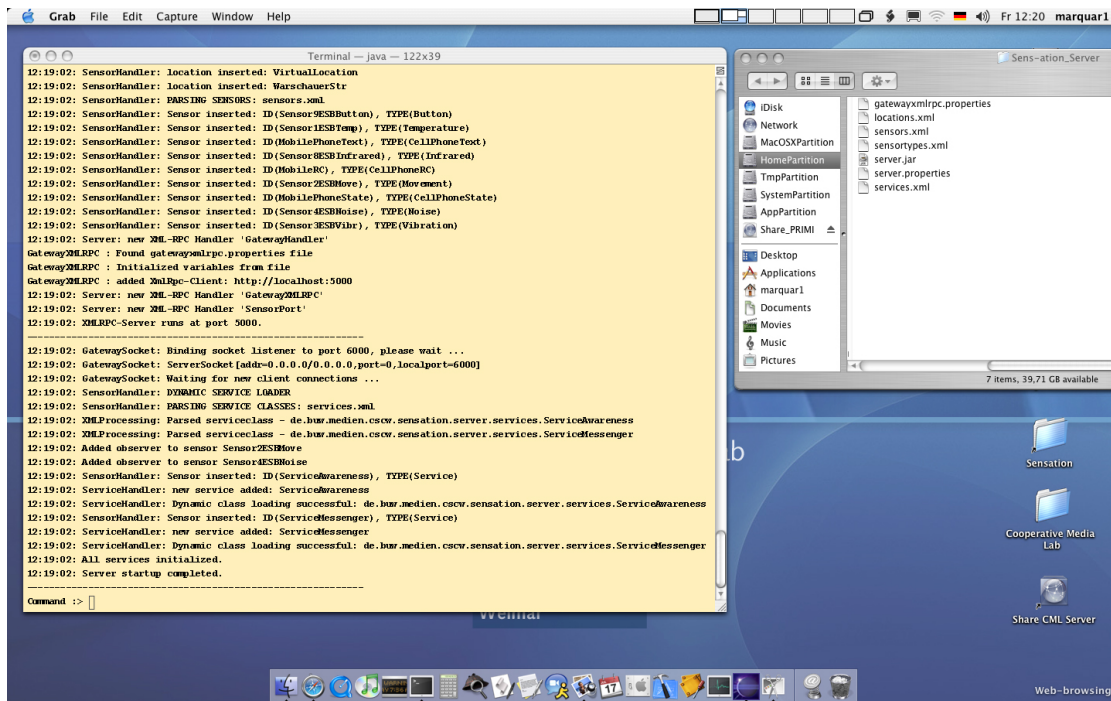

Figure 3.2.: Sens-ation server started, console window
6. **Server** console (see figure 3.2): you can see the startup sequence: initialization of the gateway modules, the sensor handler, registration of sensors, locations and services. When the initialization has finished, you see the server console prompt. Congratulations! The "Sens-ation" server is now ready.